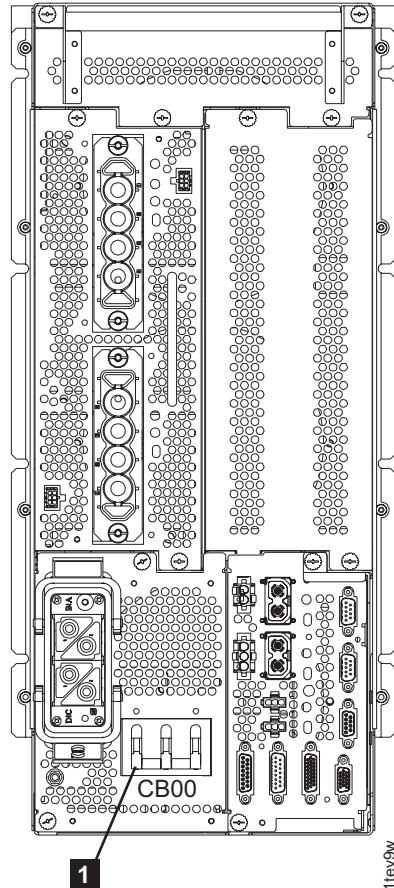

Figure 40. Rear view of PPS showing CB00
3. Verify the MAIN LINE circuit breaker **1** (CB00) on the rear of each primary power supply is set to Off (down). Refer to Figure 40.